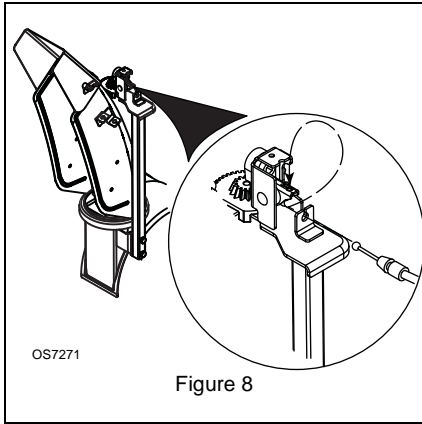

Figure 8
9. Insert the chute lock cable fitting into the bracket on the chute pedestal, and then connect the chute lock cable to the lock teeth by fitting the cable ball end into the slot on the lock teeth. See Figure 8.
NOTE: Press down on lock teeth with your finger to align the cable ball end with the slot (Figure 8).